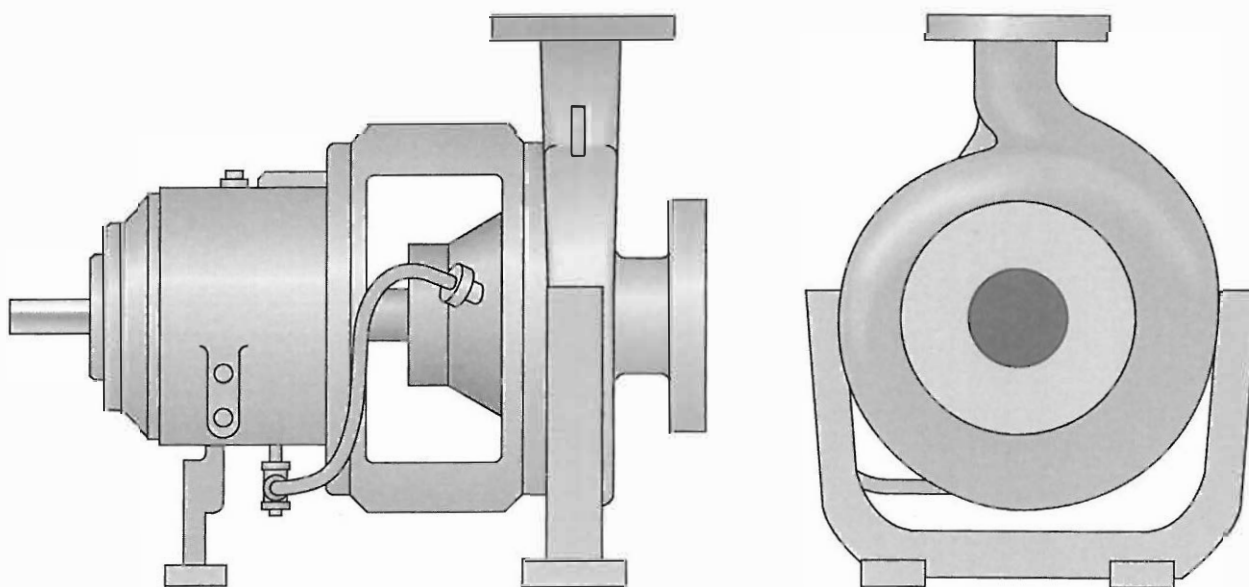

FIGURE 12- TYPICAL WATER COOLED PUMP
- Adhere to the following for (See Figure 12):